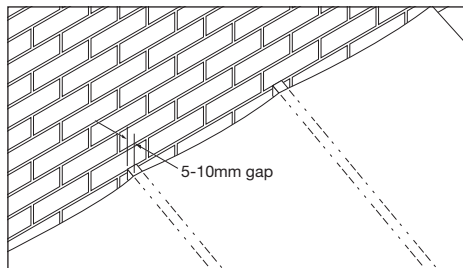

Fig. 1 – Felt and batten normally
- 1 Felt and batten roof in normal way but do not return felt up abutment wall (Fig. 1).